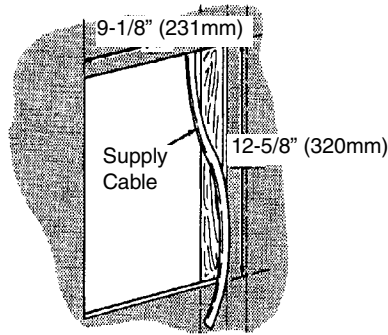

Figure 3
2. Carefully mark and cut a hole in the wall or ceiling measuring 9-1/8" (231 mm) wide by 12-5/8" (320 mm) high with one side of the hole along the edge of a wall stud or ceiling joist. See Figure 3